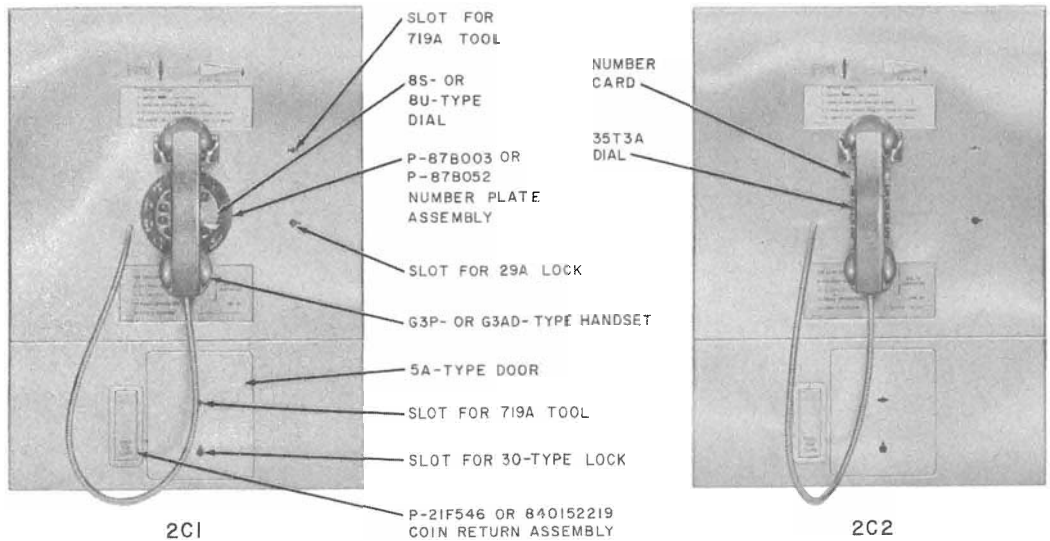

Fig. 2—2C-Type Coin Telephone Sets
**2.02** The 2C-type coin telephone set (Fig. 2) can be installed in the following: